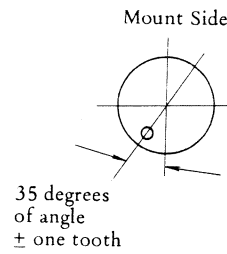

Fig. 6
- 2) Set the dowel of Counter Cam (19-9996) at the position in Fig. 6, 35 degrees of angle \pm one tooth.